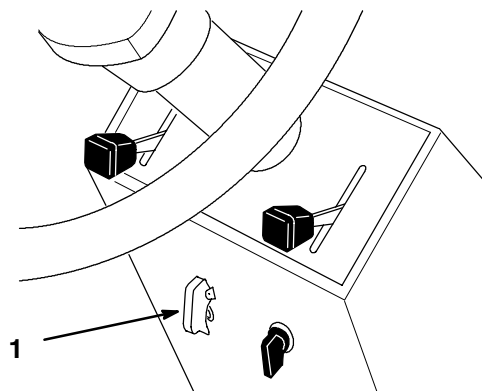

Figure 7
3. To engage lift cover and move the PTO switch to the "ON" position (Fig. 7).
1. Closing the cover moves the PTO switch to the "OFF" position (Fig. 7).